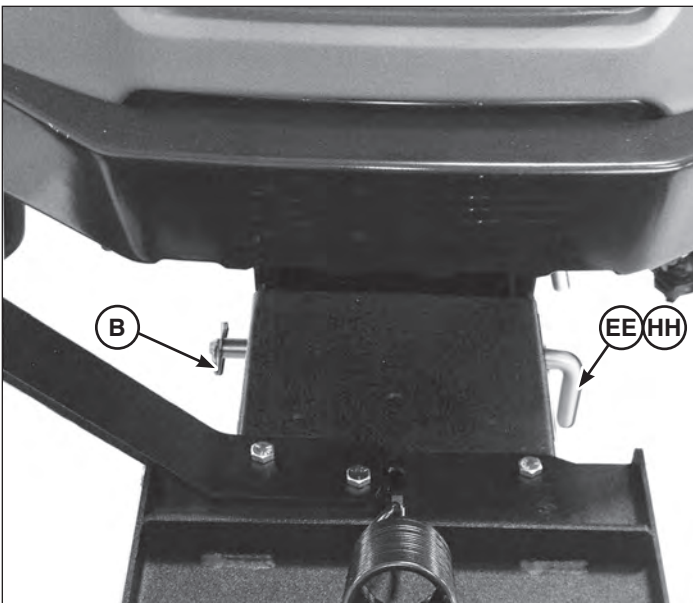

Figure 14
12. Slide hitch latch rod (**EE**, small frame / **HH**, large frame, Figure 14) through holes from step 11 and secure rod with hair pin (**B**).